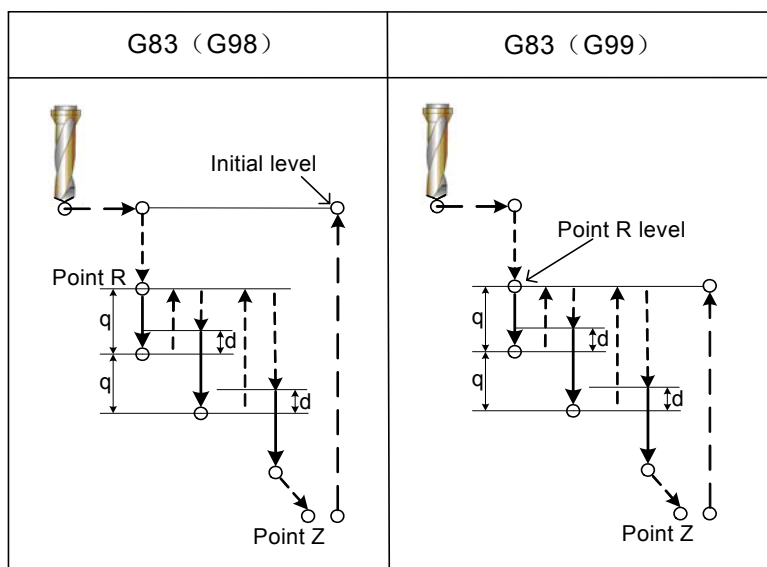

Fig. 4-4-10-1
**Q:** It specifies the cut depth for each cutting feed, which must be specified as an incremental value. In the second and the subsequent cutting feed, the tool rapidly traverses to the position which has a distance d to the end position of the last drilling and then performs the cutting feed again. d is set by parameter P271, as is shown in Fig. 4-4-10-1.